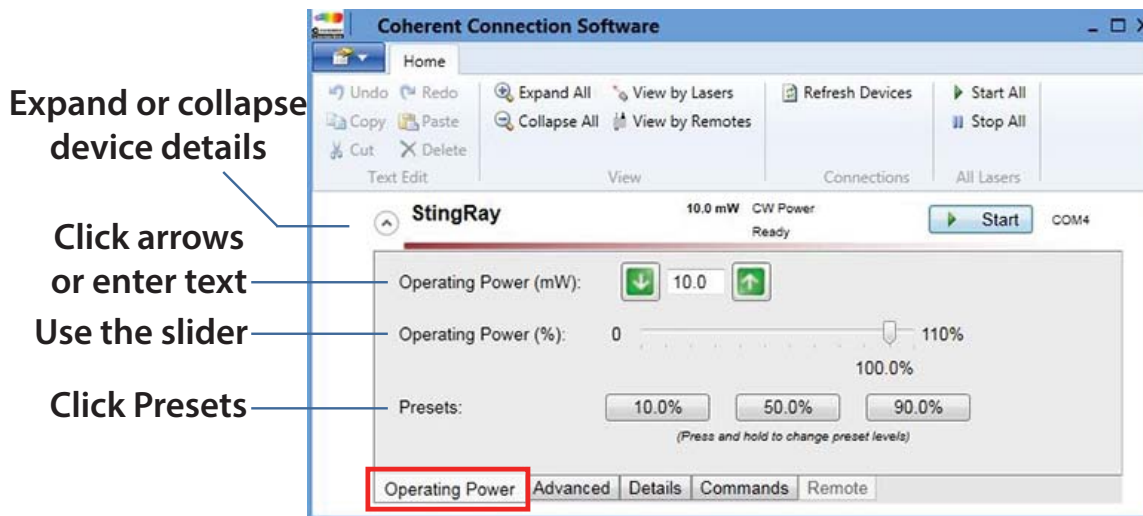

Figure 4-14. Software – Operating Power Tab
Figure 4-14 shows the Operating Power tab window expanded with details about a 100 mW laser in Continuous Wave (CW) Mode, ready but not emitting.